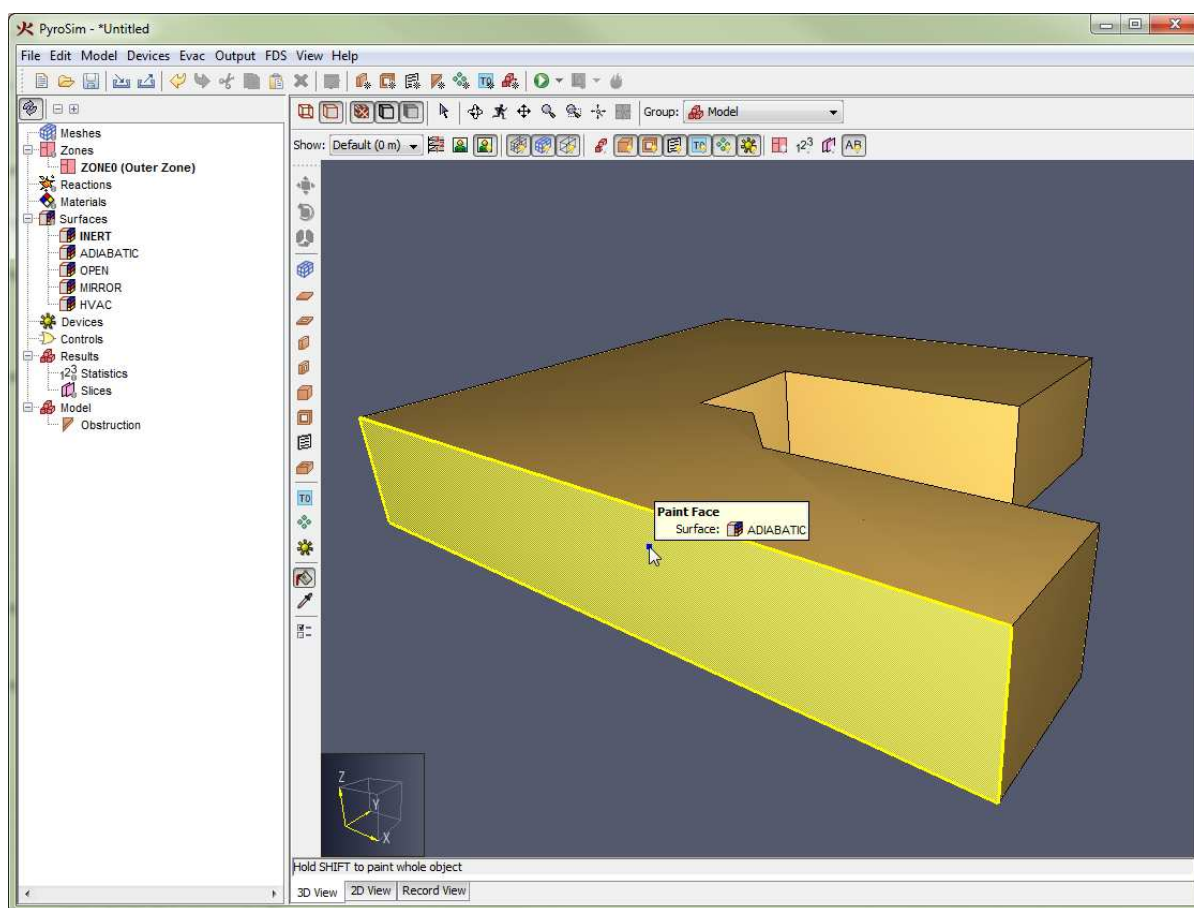

Figure 102. An obstruction face highlighted by the paint tool
2. Hover the cursor over the desired face to paint. If the face can be painted with the current surface/color, the face will highlight yellow as shown in Figure 102.